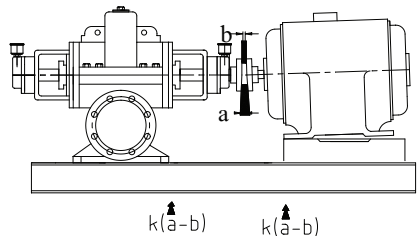
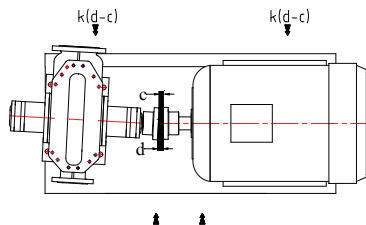

Figure 5: Angular misalignment in vertical plane and its correction
Figure 7: Angular misalignment in horizontal plane and its correction.
2. Angular Misalignment (Figure 5- Figure 7)